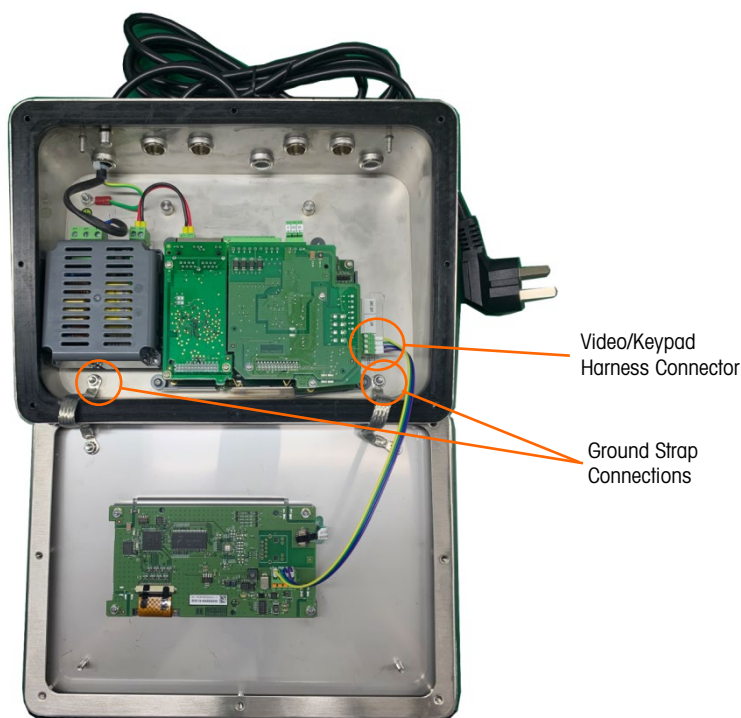

Figure A-20: Loosening the Ground Straps
- b. Loosen and remove the two nuts securing the two grounding straps (which also function as hinges for the front cover) to the indicator module, as well as disconnect the panel display port connector – see Figure A-20.